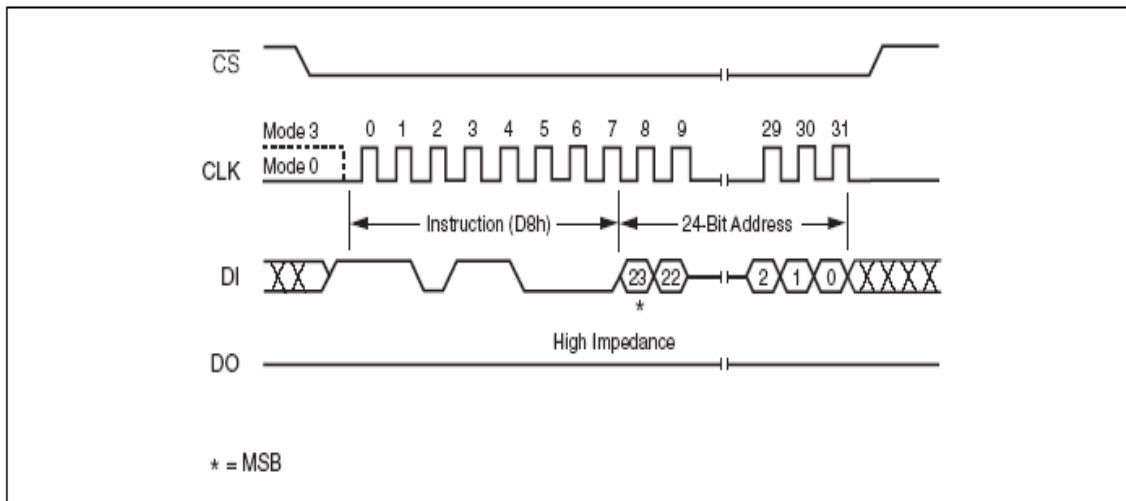

Figure 12. Sector Erase Instruction Sequence Diagram
The instruction sequence is shown in Figure 12.. Chip Select ($CS\#$) must be driven High after the eighth bit of the last address byte has been latched in, otherwise the Sector Erase (SE) instruction is not executed. As soon as Chip Select ($CS\#$) is driven High, the self-timed Sector Erase cycle (whose duration is t_{SE}) is initiated. While the Sector Erase cycle is in progress, the Status Register may be read to check the value of the Write In Progress (WIP) bit. The Write In Progress (WIP) bit is 1 during the self-timed Sector Erase cycle, and is 0 when it is completed. At some unspecified time before the cycle is completed, the Write Enable Latch (WEL) bit is reset.